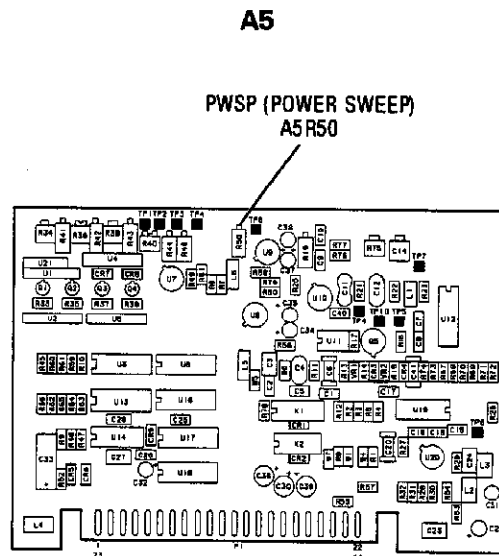

Figure 5-44. Power Sweep Adjustment Location
5. While observing the Model 8756A display of the RF output, adjust A5R50 (PWSP) for a power level change of 10 dB across the display (10 dB/sweep). Refer to Figure 5-44 for the adjustment location.